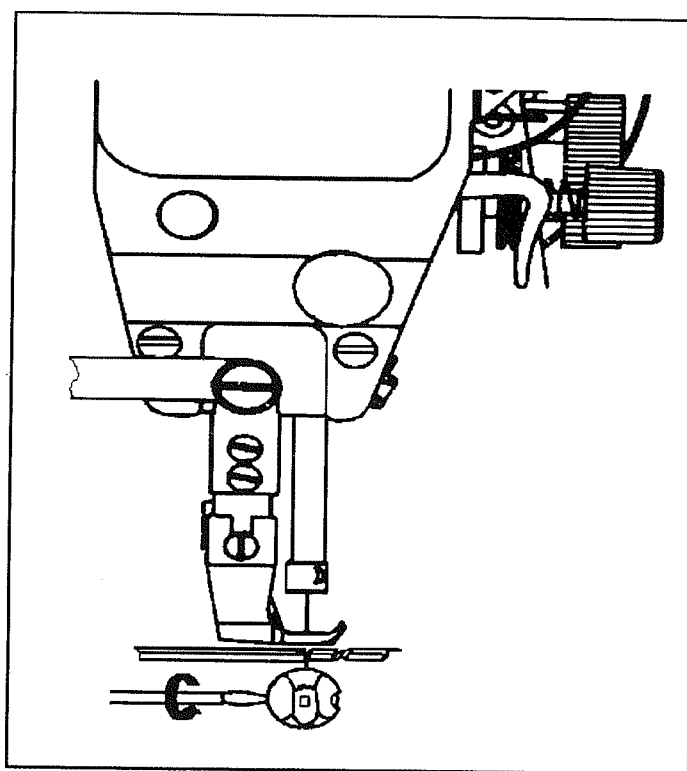

Fig. 16
- 1) In case needle thread tension is too strong or bobbin thread tension is too weak, as shown in Fig.15 (b), turn the thumb nut counterclockwise to decrease the needle thread tension, or tighten the tension spring regulating screw of bobbin case to increase the bobbin thread tension (See Fig.16)